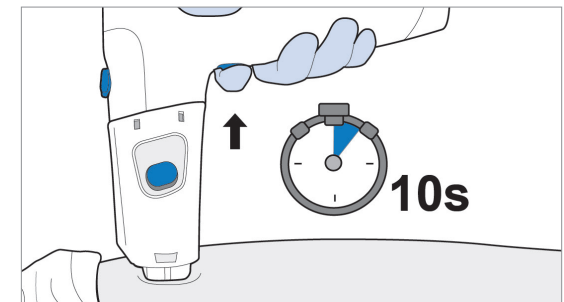

Figure 61 Treatment Time
4. Confirm the Handset displays "Press button to deliver treatment." Press and release the trigger to begin treatment. Hold the Handset firmly against the muscle until the treatment is complete (see Figure 61).